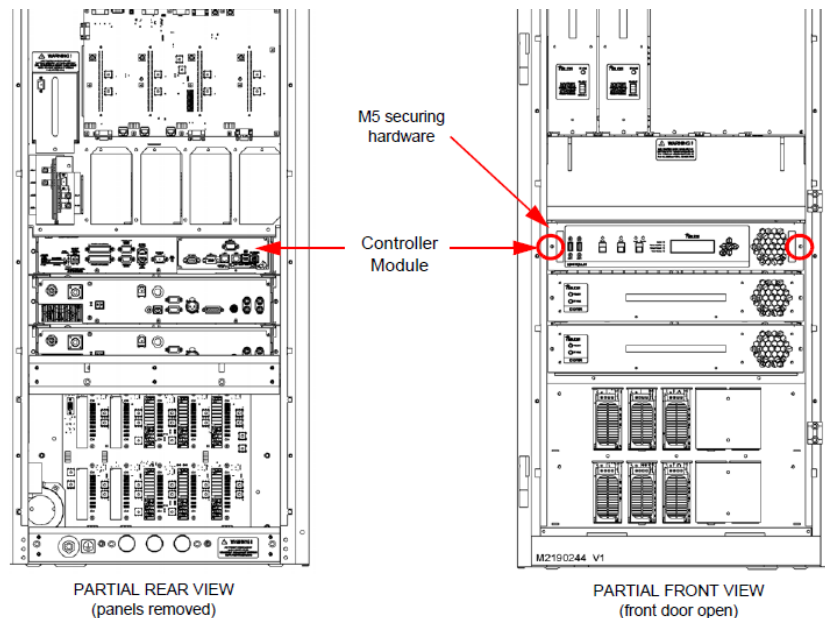

Figure 1: Front & Rear view of the transmitter (GV5 shown as reference)
- (c) From the front of the transmitter, open the front door (left most for multi-door transmitters) and remove and retain the two M5 Phillips head screws that secure the Controller Module to the transmitter (see Figure 1). Remove the module from the transmitter.
- (b) Using retained hardware from step 3 (c), re-install the controller and reconnect the mating connectors. Refer to Figure 1 if necessary.